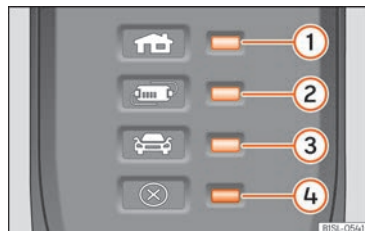

Fig. 65 On the charging cable for power sockets: Indicator lamps on the protection device.
>>> Fig. 65:
The electronic protection device >>> Fig. 65 ensures that the charging connector does not receive current until it is plugged in to the vehicle's charging connector.
One or more control lamps **>>> Fig. 65** ①, ② o ③ light up green.
Display >>> Fig. 65	Meaning
①, ④ flashing	The housing connector has overheated.
②, ④ flashing	The protection device has overheated.
If the charging process continues with a lower current, both the operating indicator and the warning lamp **>>> Fig. 65** ④ flash red.
- If it disconnects again, or the charging current reduces and the cause does not seem to be exposure to an external heat source, make sure that the green control lamp is flashing **>>> Fig. 65**. To check the charging cable, please visit a SEAT dealer. Get an establishment that specialises in electrical installations to check the infrastructure connection.
If the red warning light ④ flashes or turns on without one of the indicator lamps **>>> Fig. 65** ①, ② o ③ also turning on continuously on the status indicator, there is a fault.